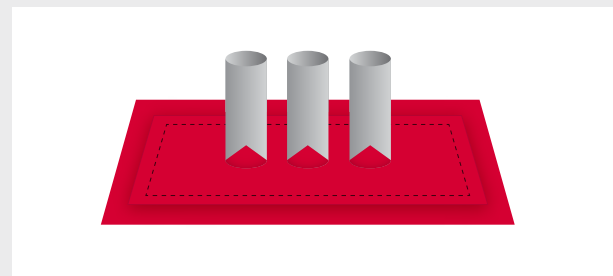

Figure 8: Once the overlay patch is positioned, seal the perimeter to the membrane by applying VaporFlex® Premium Butyl 2-Sided Tape in-between the two layers.
4. Once the patch is positioned, seal the perimeter to the membrane by applying VaporFlex® Premium Butyl 2-Sided Tape in-between the two layers. (Fig. 8)